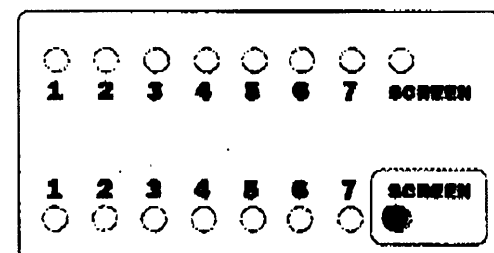

Fig5. TEST COMPLETE. READY FOR MEMORY.
Repeat step 5 until the SCREEN LED turns ON (Fig5). This is the end point for the visual test procedure, AudioCheck (TM) can not decide for you whether the results are correct or not.